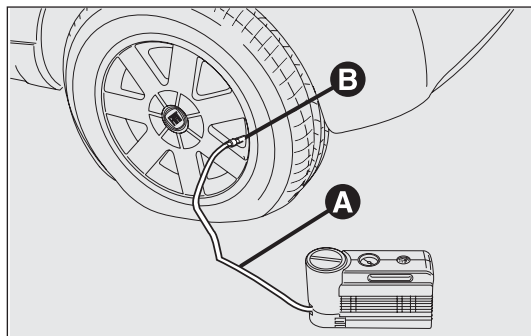

fig. 134
- Ensure that the handbrake is engaged. Remove the tyre valve cap, extract the flexible filler tube A-fig. 134 and fasten the ring B onto the tyre valve;